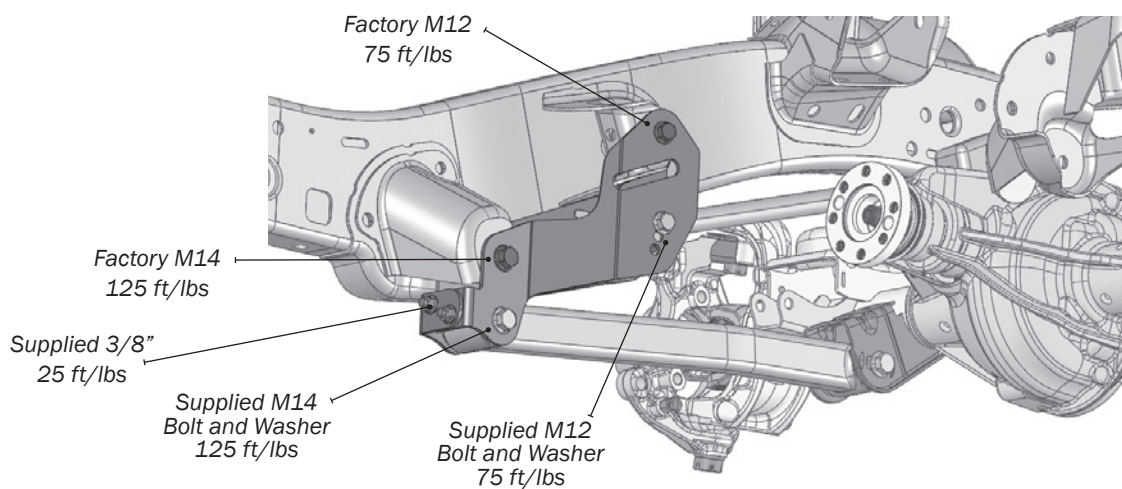

Figure 2
5. Use the supplied bolts, nuts, and washers to mount the control arms in the new dropped locations. Use M12 fasteners for the upper control arms and M14 for the lower control arms (Fig. 2).